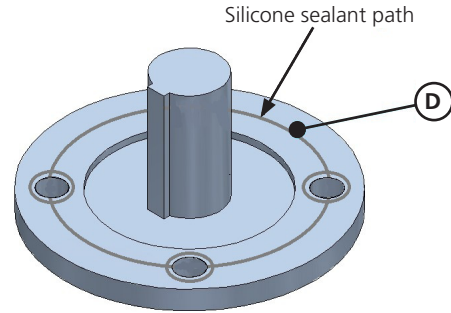

Figure 5 – Sealing of valve mounting flange
- 3) It is recommended that flanges be sealed on assembly with silicon sealant. Apply a ring of silicone sealant around the mounting face of the flange, the ring should be at the same radius from the shaft as the bolt holes. Apply small rings of sealant around each of the bolt holes to completely seal the faces. The path marked 'D' in Figure 5 shows where sealant should be applied to the valve mounting flange. For acceptable sealants, see Table 4 in Section 8.1.
If an actuator is to be used to operate the gearbox, then the mating faces between the gearbox input flange and the actuator output must be sealed prior to assembly using a ring of silicone sealant applied at the same radius as the bolt holes, a small ring of sealant should be applied around each bolt hole to completely seal the faces (see Figure 5).